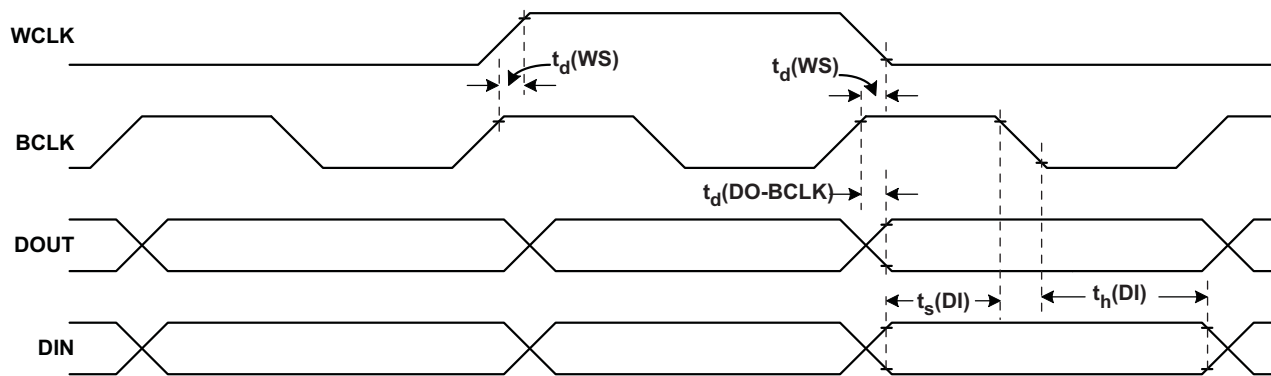

Figure 3-3. DSP Timing in Master Mode
3.9.1 Typical Timing Characteristics (see Figure 3-3)